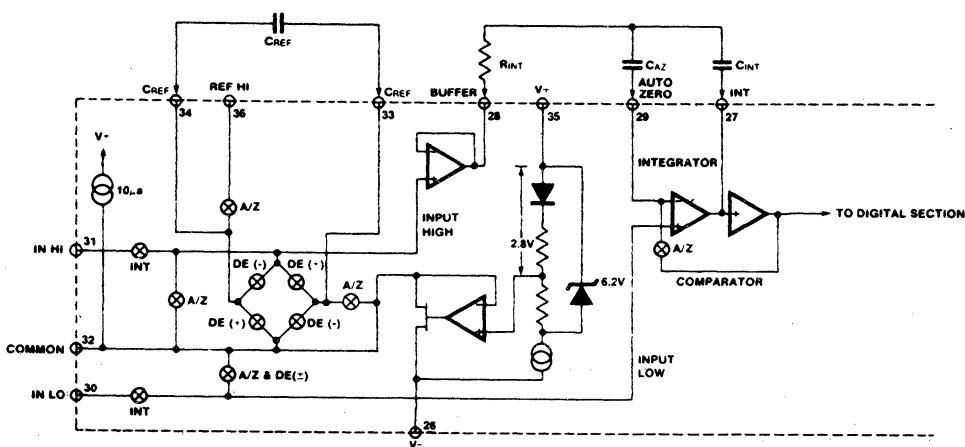

Figure 4: Analog Section of 7116/7117
- NOTES: 3. Unless otherwise noted, specifications apply to both the 7116 and 7117 at TA = 25°C, f_{clock} = 48kHz. 7116 is tested in the circuit of Figure 4. 7117 is tested in the circuit of Figure 5.
Figure 4 shows the Analog Section for the ICL7116 and 7117. Each measurement cycle is divided into three phases. They are (1) auto-zero (A/Z), (2) signal integrate (INT) and (3) de-integrate (DE).